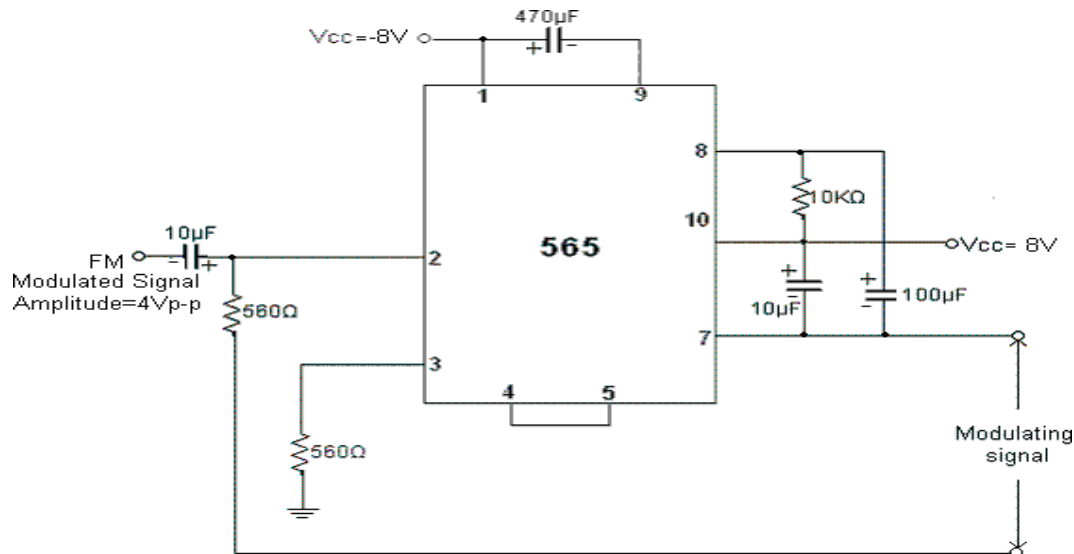

Fig.3.FM Demodulator Circuit
1. Connections are made as per circuit diagram shown in Fig. 3